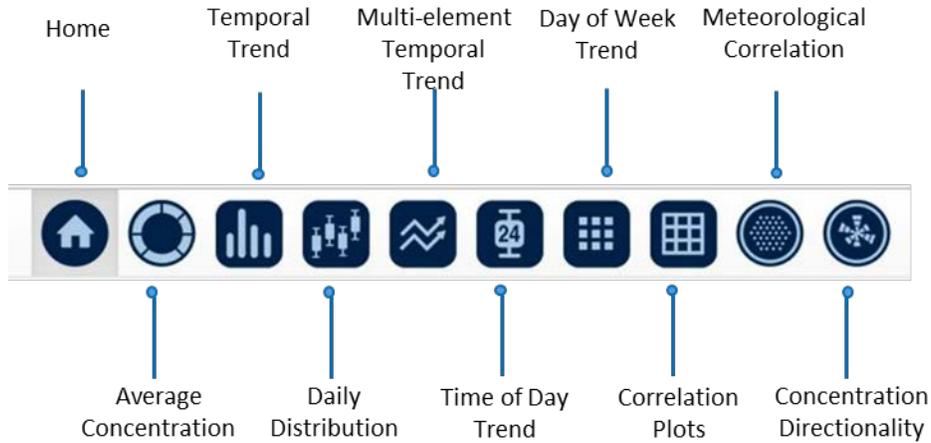

Figure 8.1 ADAPT navigation menu.
- 8.2 The navigation menu under ADAPT allows the user to select and view different analysis report pages (**Figure 8.1**). Each analysis report page